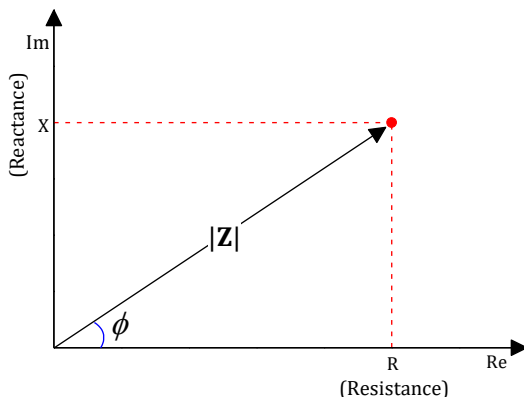

Figure 1. Impedance vector: Real and Imaginary components
In engineering terminology, the concept of ‘impedance’ should be used to account for the impeding effect of the electrostatic storage of charge in concrete, in addition to the normal resistance of concrete. Impedance, z , is described as a complex quantity that has an imaginary component called reactance, x , and a real component called resistance, r . In other words, the vector summation of these two components would result in an impedance vector, z . Therefore, the electrical impedance z can be also represented by a magnitude (Z) and a phase angle (ϕ) (Fig.1). Both the magnitude and phase angle of such a vector could vary depending on the frequency of the applied current.